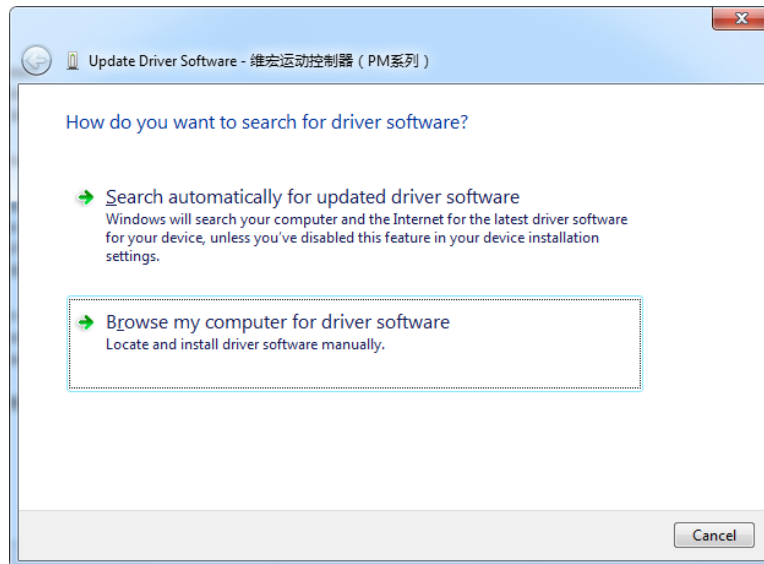

Fig. 1-3 Hardware update wizard
2) In [Update Driver Software] window, click “Browse my computer for driver software”. See Fig. 1-3: